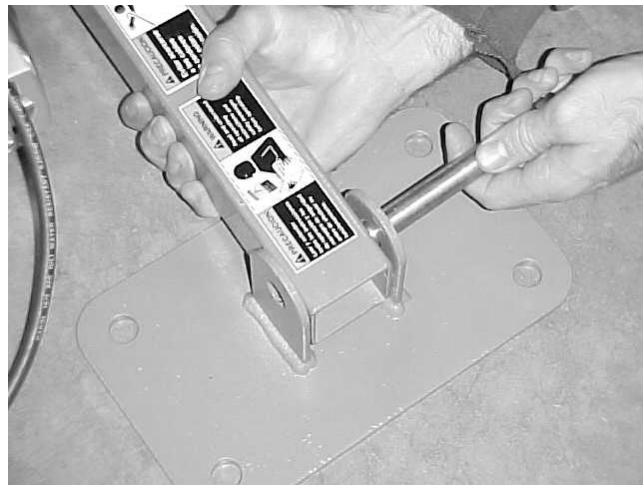

Figure 1
2. Place Power Unit into the Base Plate and secure with Clevis Pin (See Figure 1)